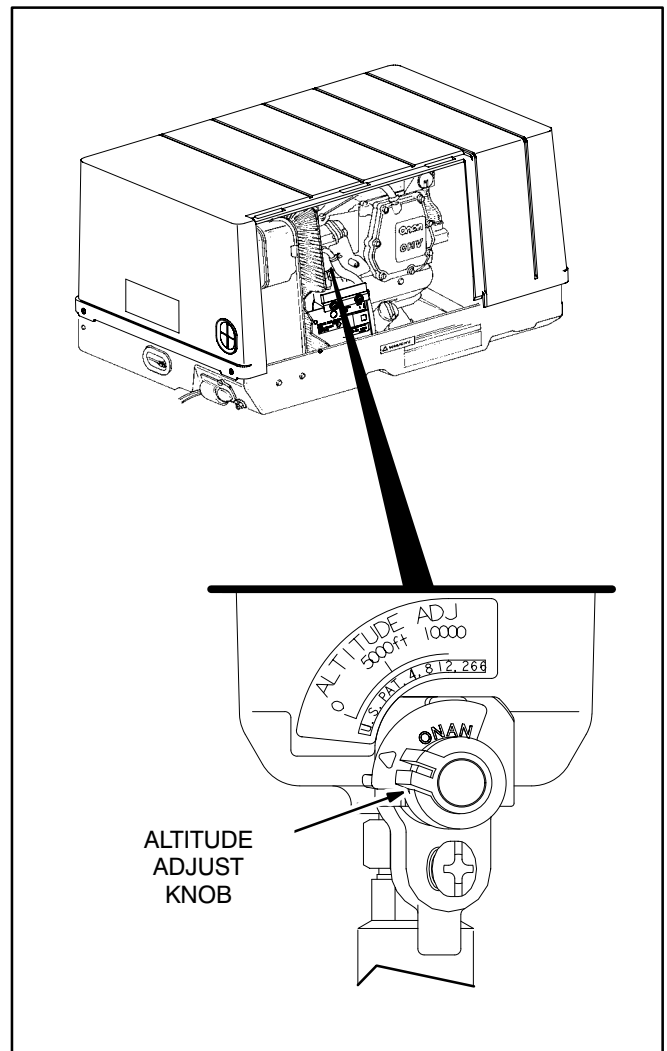

FIGURE 2-2. ALTITUDE ADJUST KNOB (GASOLINE MODELS ONLY)
2. Check the altitude setting (Figure 2-2).
5. Check the altitude setting (Figure 2-2).
Gasoline Models – For best fuel economy and genset operation reset the carburetor for the current altitude (Figure 2-2). Look at road maps and road signs. For the effect of altitude on maximum power, see LOADING THE GENSET (Page 2-2).